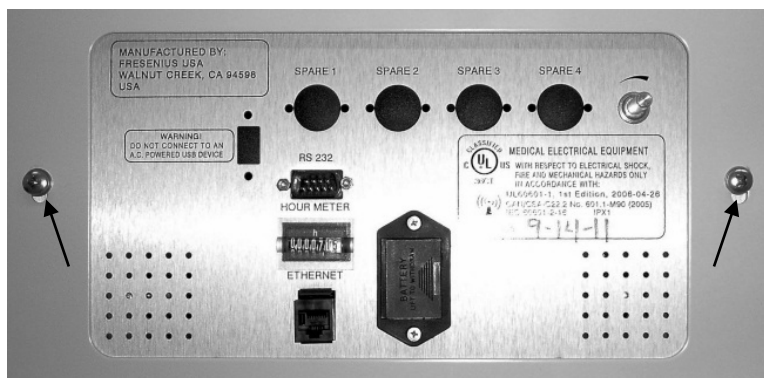

Figure 3
10. Remove the two (2) screws securing the card cage into the cabinet (see Figure 3). Slide the card cage out the front of the cabinet a few inches.